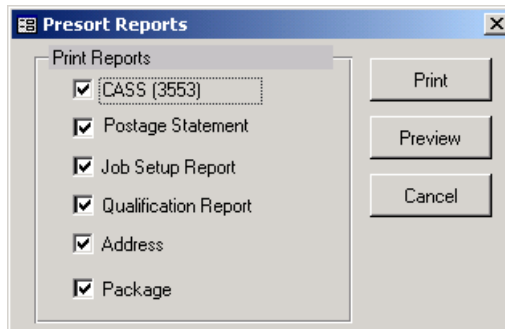

Figure 3-12
- b. Click **OK**. The Presort Reports dialog box appears (Figure 3-12).
4. When the presort is complete, the Presort Reports dialog box appears (Figure 3-12). Preview the reports, print them, or click **Cancel**.